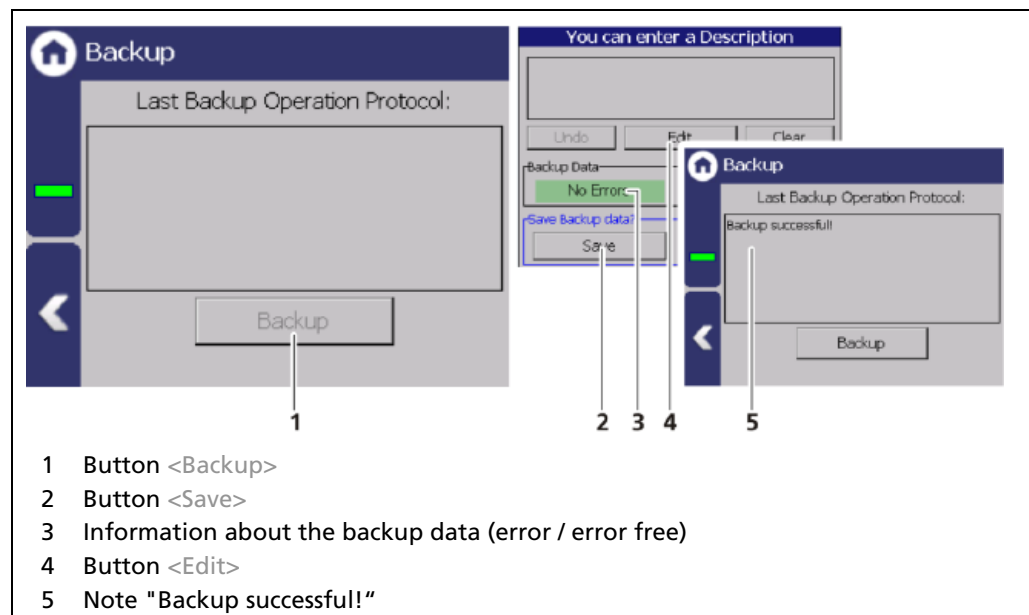

Fig. 119 Backup
2. The USB storage device is recognized by the system after a few seconds and the button <Backup> (Fig. 119, item 1) can be clicked.
3. Click on the button <Backup> (Fig. 119, item 1).
- ▶ The message "No Errors" (Fig. 119, item 3) appears in the field "Backup data" for error-free backup files.
- 4. Click the button <Edit> (Fig. 119, item 4), enter a description, and confirm with the Enter key.
- 5. Click on the button <Save> (Fig. 119, item 2).
- ▶ The message "Backup successful" appears after a successful copy process (Fig. 119, item 5).